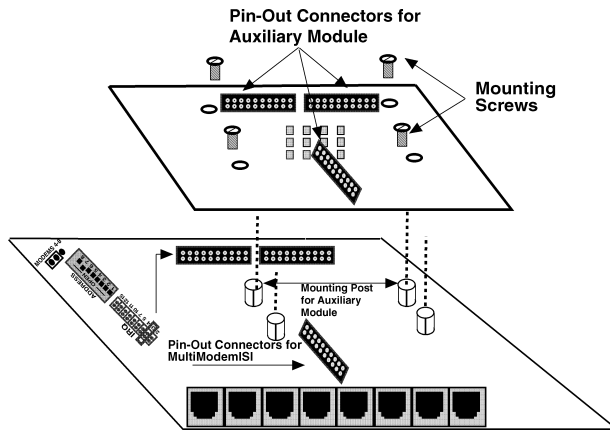

Figure 2-1. MultiModemISI/Auxiliary Module Attachment
- ii) Attaching both the MultiModemISI and the auxiliary module. This is accomplished by mating the pin-out connectors to the MultiModemISI to the auxiliary module; and fastening the mounting connections (four screws) of the auxiliary module to the MultiModemISI (see Figure 2-1).